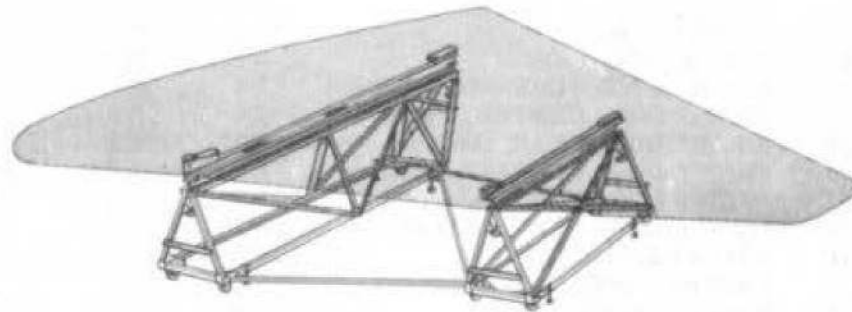

Fig. 4 Trestling sections of aircraft
6. The sections of the aircraft are trestled as shown in fig.4.